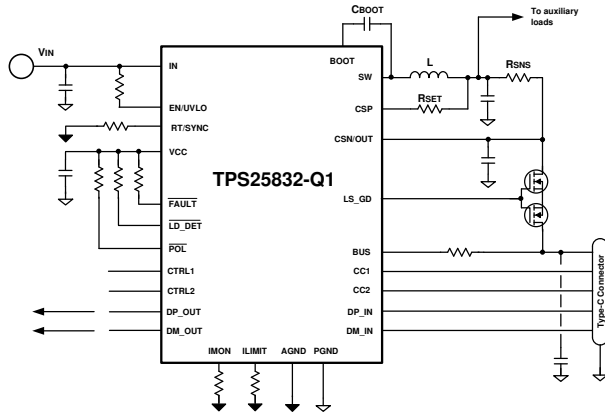
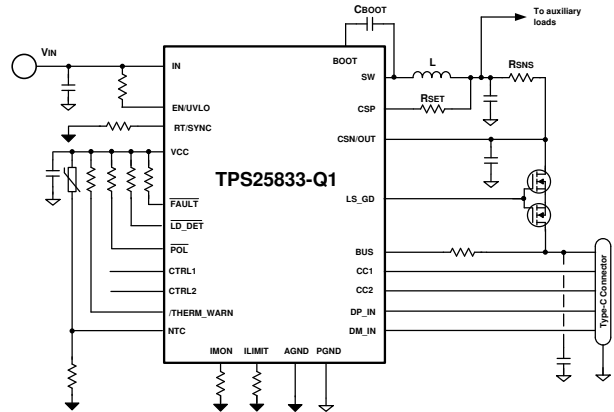

Figure 10-16. TPS25832-Q1 Current Limit with External MOSFET
Figure 10-17. TPS25833-Q1 Current Limit with External MOSFET
- With external MOSFET Figure 10-16, Figure 10-17:
The TPS2583x-Q1 has integrated NFET gate drivers, and can support current limit with external NFET. Refer to Figure 10-16.